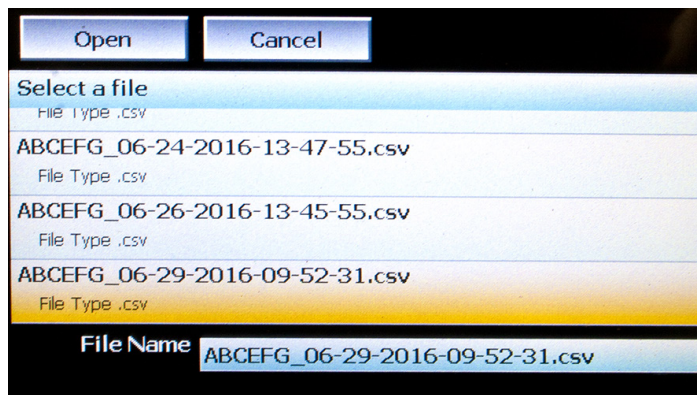

Fig. 73: File OPEN Screen
4. Touch the file to be opened. The bar containing the title will become highlighted in orange (Fig. 73).